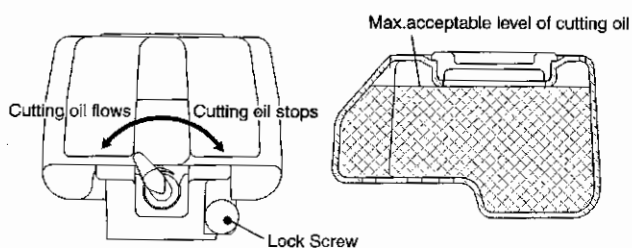

Fig. 16
- (1) Always use our genuine cutting oil. With other cutting oil, the cutting performance and service life would be decreased.
- (2) Dilute the cutting oil eight to ten portions of tap water. Do not use well water.
- (3) Fill the diluted cutting oil into the tank container on top of the body. The oil flow control is done as follows.
- When the front lever is turned to the left cutting oil flows, and turned to the right, stops. (Fig. 16)
- Filling the tank container with too much cutting oil may cause cutting oil overflow when the cutter is lifted up. The level of cutting oil in the tank container should not be more than as is shown in Fig. 16.